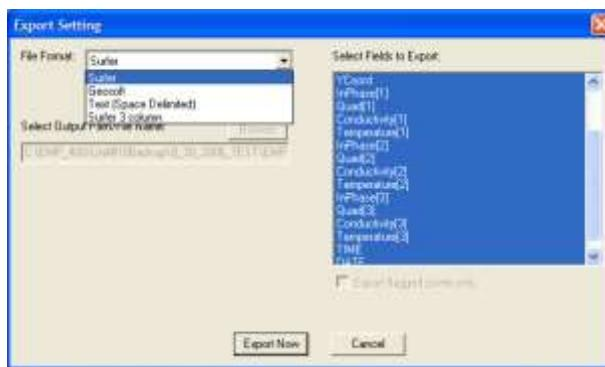

Figure 95; MagMap2000 File Header display.
- The file is now ready to be exported. From the MagMap2000 Main menu toolbar, select **File > Export**. This will bring up the Export Setting dialog box (Figure 95).
tab. After designating a file name and the target directory for the export file, select **Export Now**. In this example (Figure 95) we have chosen a SURFER*.dat file type.